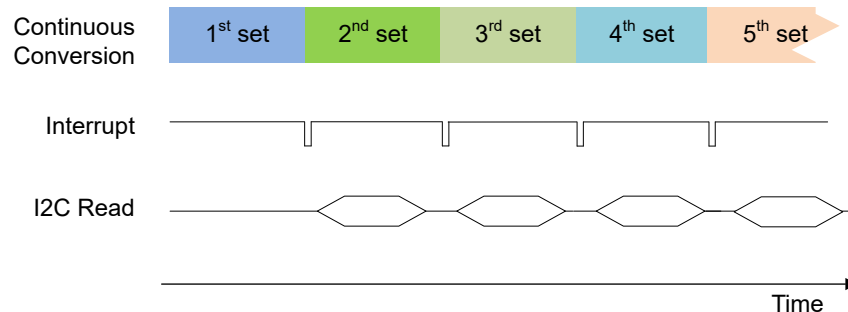

図 7-10. Continuous Conversion With AC Line Power
- Wait for the INT signal assert low to indicate conversion complete. When $\overline{\text{INT}}$ goes low, perform the 16-bit T, X, Y, Z register read with one single read command (see 図 7-10).